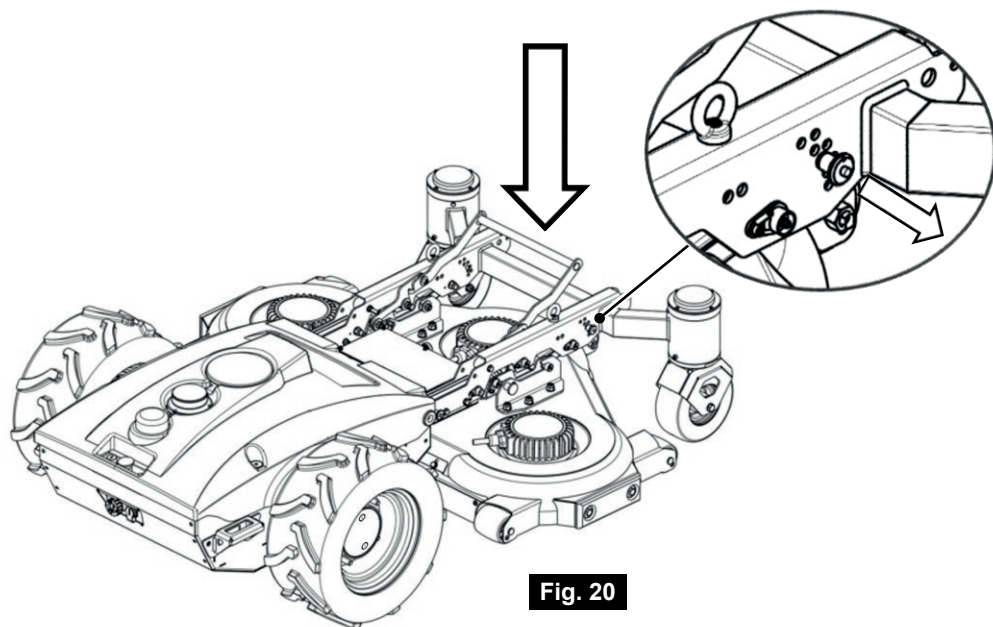

Fig. 20
- b. To remove or insert the pins, press the button on the pin head (Figure 20), which unlocks a safety mechanism that prevents accidental extraction during machine operation.